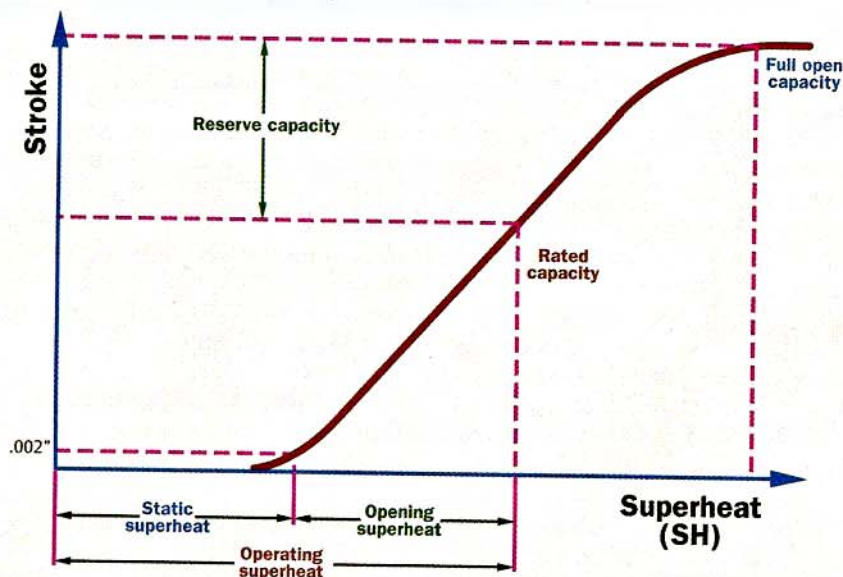

Figure 2
► **Gradient.** The amount of superheat required to move the pin from the static set point to the rated stroke is called gradient. Figure 2 depicts how a TXV regulates flow in response to changing superheat.